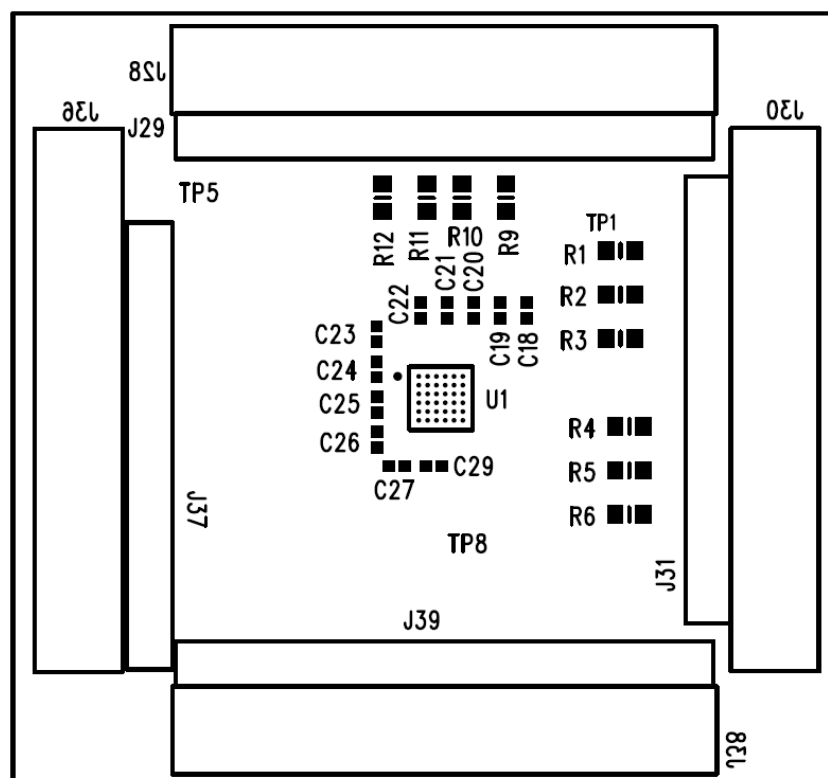

Figure 4 DA7211-00 44-179-93-04-B Miniboard
2. A miniboard containing the DA7211-00 in a 36-pin CSP package connected to evaluation board 44-179-93-02-B via jumpers J28, J30, J36 and J38, Figure 4. This board can also be used standalone or in conjunction with a customer development system.